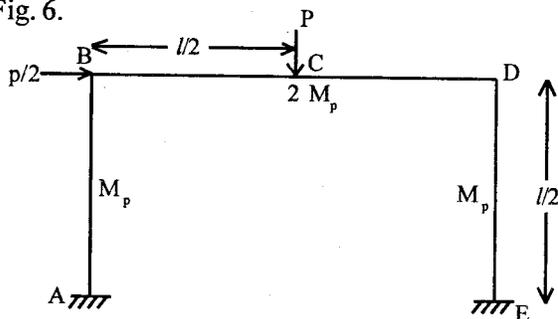

Fig. 6
- (b) Determine the collapse load for the portal frame shown in Fig. 6.